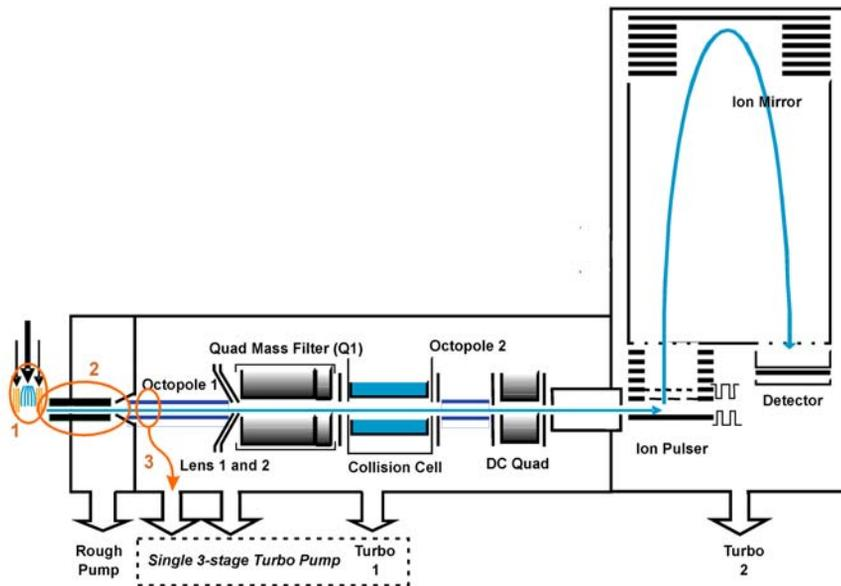

Figure 9 Schematic of 6530 Q-TOF LC/MS with major improvements circled
Figure 9 shows the complete 6530 Q-TOF schematic, with major improvements identified.
See Figure 9 on page 29 for a schematic of the 6530 Q-TOF.
Ions are generated using an electrospray ion source where the analyte is simultaneously ionized and desolvated from the liquid matrix. The first of three (3) innovative Agilent enhancements is found in the application of Agilent Jet Stream Technology (denoted as 1 in Figure 9) which improves sensitivity via thermal gradient focusing and enhanced desolvation. This technology is described in detail below (“Agilent Jet Stream Thermal Gradient Technology” on
The desolvated ions then enter the mass spectrometer via an innovative resistive and highly inert capillary transfer tube (denoted as 2 in Figure 9) that improves ion transmission and allows virtually instantaneous polarity switching.
Further increase in ion transmission is obtained by improvement of the pumping speed in vacuum stage 2, resulting in better ion capture by the first octopole (denoted as 3 in Figure 9). The ions next pass through the optics and into the quadrupole analyzer. The quadrupole analyzer consists of four parallel hyperbolic rods through which selected ions based on their mass to charge ratio are filtered.